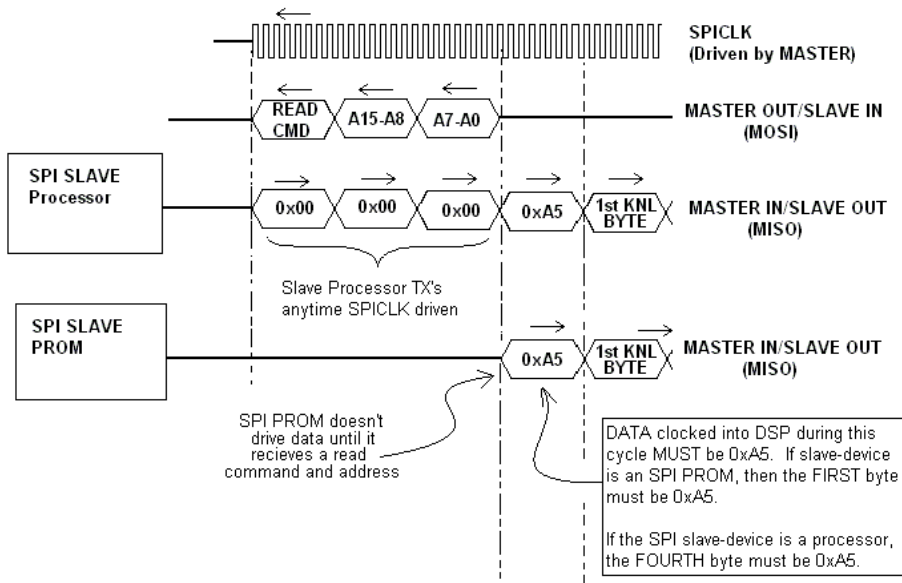

Figure 6-1. SPI Master Mode Booting Using Various Serial Devices
Figure 6-1 shows the initial 32-bit word sent out from the processor. As shown in the figure, the processor initiates the SPI master boot process by writing an 8-bit opcode (LSB first) to the slave device to specify a read operation. This read opcode is fixed to 0xC0 (0x03 in MSB first format). Following that, a 24-bit address (all zeros) is always driven by the processor. On the following SPICLK cycle (cycle 32), the processor expects the first bit of the first word of the boot stream. This transfer continues until the boot kernel has finished loading the user program into the processor.
- 1 Initial word for SPI master boot type is always 32 bits. See Figure 6-1 on page 6-13 for explanation.
- 2 Initial word for SPI PROM boot type is always 8 bits. See Figure 6-1 on page 6-13 for explanation.
Typically, host processors in SPI slave mode transmit data on every SPICLK cycle. This means that the first four bytes that are sent by the host processor are part of the first 32-bit word that is thrown away by the processor (see Figure 6-1). Therefore, it is necessary for the loader to pad an extra four bytes to the beginning of the boot stream when programming the host; for example, the first byte of the kernel is the fifth byte of the boot stream. VisualDSP++ automatically handles this in the loader file generation process.